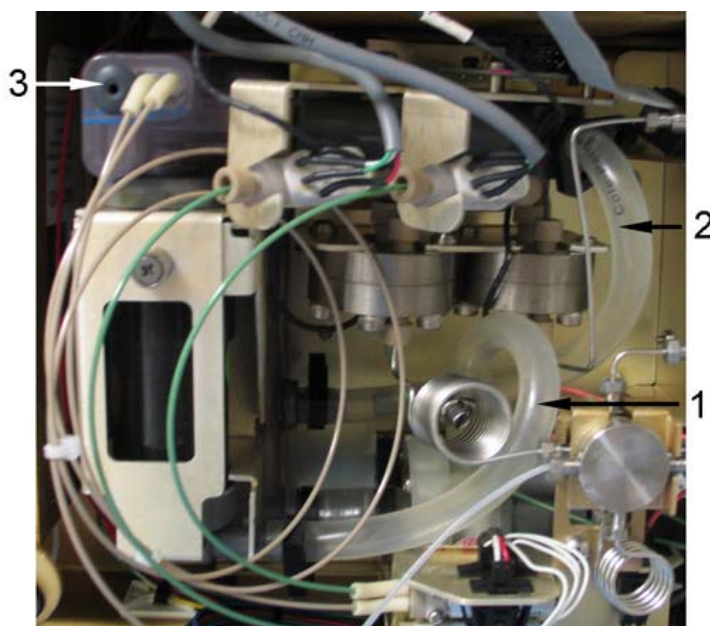

Figure 36: The DI Water Loop
2. Remove the Lower tube (Item 1 in Figure 36) from the bottom of the resin bed. Place the tube into a bottle or tray, as water will drain from this tube.
3. Remove the inlet cover on the DI water reservoir (Item 3 in Figure 36). Water will drain from the tube when you remove the inlet cover.